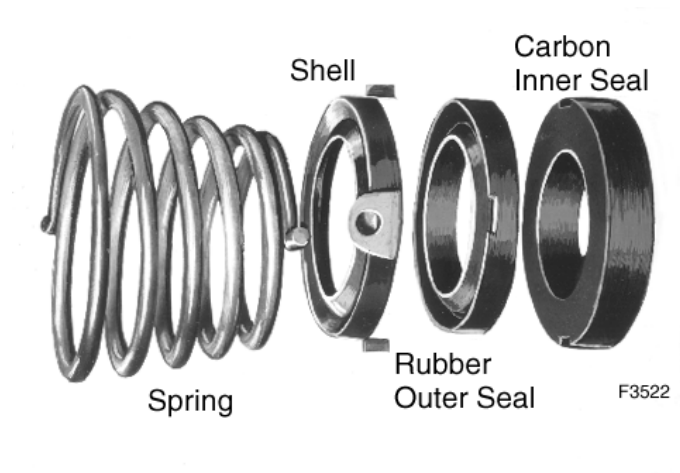

Figure 10-12. Spring And Seal Assembly .
The stationary bushing, Figure 10-11, is applied into the drive shaft support housing. The carbon inner seal of the seal assembly, Figure 10-12., on page 10-14, faces against the smooth inner surface and is held by a spring. Any water leakage past the seal is indicated at a tell-tale drain in the drive shaft support housing which permits runoff, and prevents water from reaching the engine side of the pump.
9. Remove loose spring and seal assembly from support housing, Figure 10-12., on page 10-14.
11. Install the new seal assembly, Figure 10-12., on page 10-14. Check carbon face for cleanliness. Apply carbon inner seal with the narrow end contacting the stationary bushing. Apply rubber outer seal to shell, and apply to carbon seal so ears of shell fit into the slots in the carbon seal. One end of the drive spring fits into the shell while the other end must be fitted into a slot at the bottom of the impeller when it is assembled.